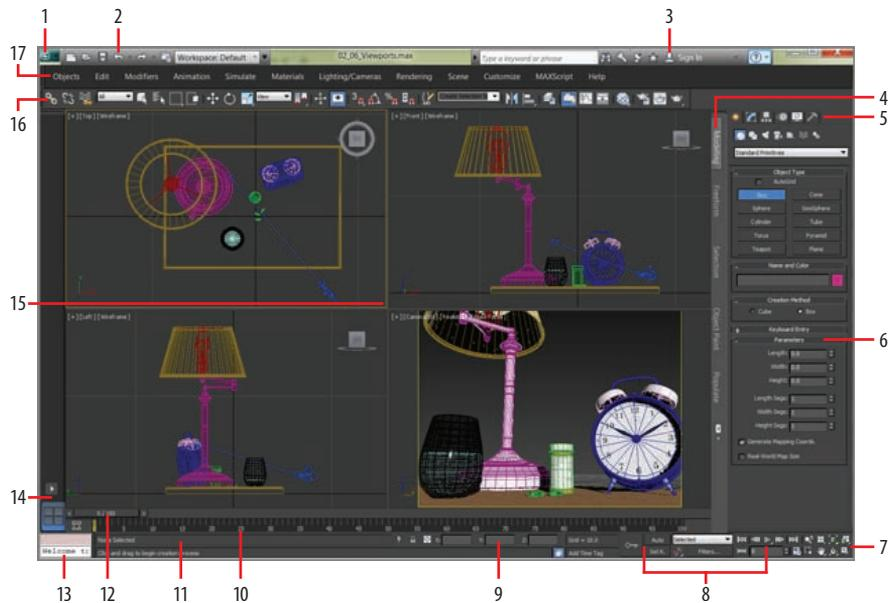

FIGURE 1.1 The 3ds Max interface elements
Figure 1.1 shows the 3ds Max UI. (See Table 1.1 for explanations of the UI elements.) At the very top left of the application window is an icon () called the Application button; clicking it opens the Application menu, which provides access to many file operations. Also running along the top is the Quick Access toolbar, which provides access to common commands, and the InfoCenter, which offers to access many product-related information sources. Some of the most important commands in the Quick Access toolbar are file management commands such as Save File and Open File. If you do something and then wish you hadn't, you can click the Undo Scene Operation button () or press Ctrl+Z. To redo a command or action that you just undid, click the Redo Scene Operation button () or press Ctrl+Y.
4 The ribbon	Provides access to a wide range of tools to make building and editing models in 3ds Max fast and easy. In Figure 1.1, the ribbon is shown in a vertical orientation.
*The numerals in the first column refer to labels in Figure 1.1.
The Perspective viewport displays objects in 3D space using perspective. Notice in Figure 1.1 how the distant objects seem to get smaller in the Perspective viewport. In actuality, they are the same size, as you can see in the orthographic viewports. The Perspective viewport gives you the best representation of what your output will be.